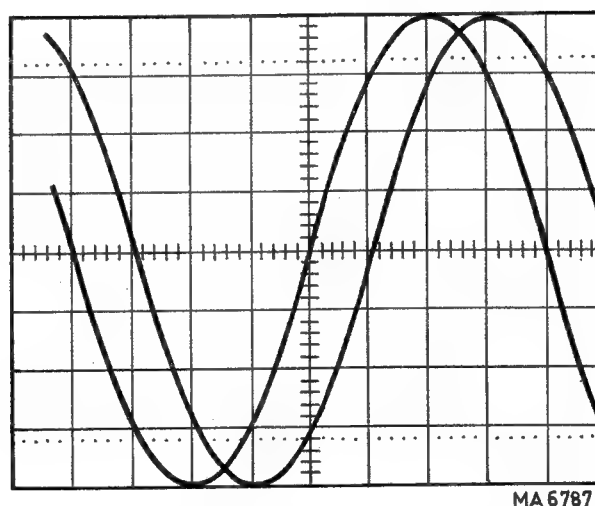

Fig. VIII-13. Main time-base phase difference measurement with leading waveform displayed over exactly eight divisions
- Using the AMPL switches and their associated potentiometers, adjust both waveforms until they are equal in amplitude. The waveforms should be as large as possible (preferably a full eight vertical divisions) See Fig. VIII-13.